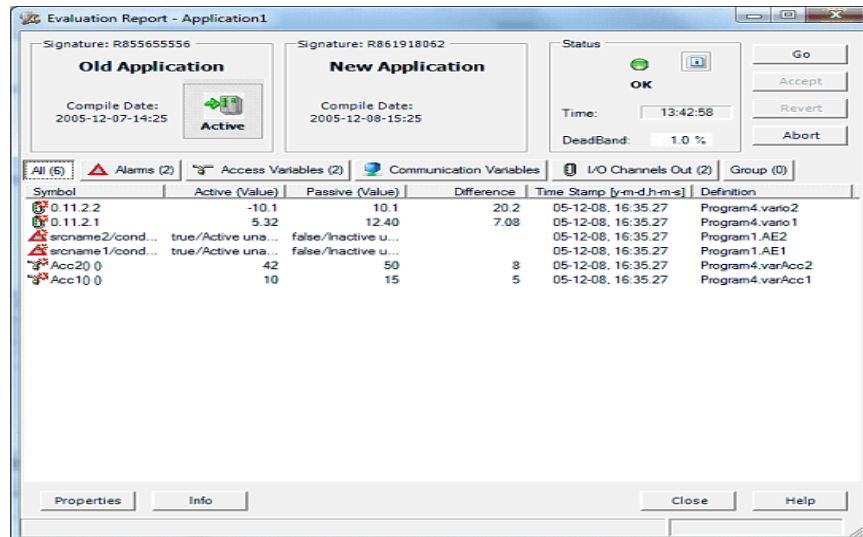

Figure 18. Evaluation Report
17. The Evaluation Report window is displayed when the download is complete. The different tabs in the Evaluation Report window (Figure 18) list variables whose values differ between the old and the new application version. Click **Help** for more information about the report and how it is to configured.